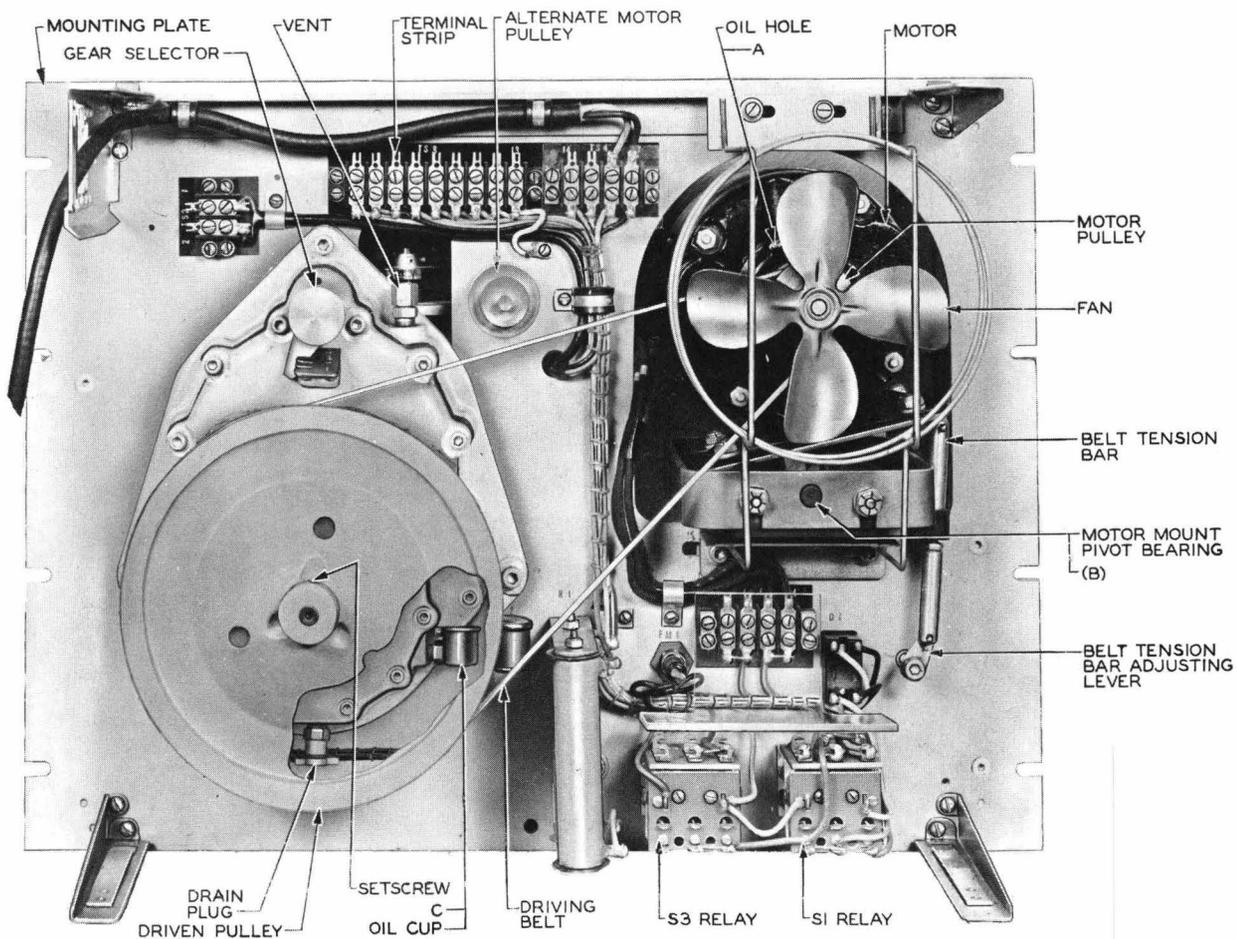

Fig. 2 — KS-12055, L4 and L6 Recorder-Reproducers — Rear View (L4 shown)
(4) Fig. 2(C) — The oil level in the oil cup of the gear box shall be maintained within 1/4 to 3/8 inch from the top of the cup.